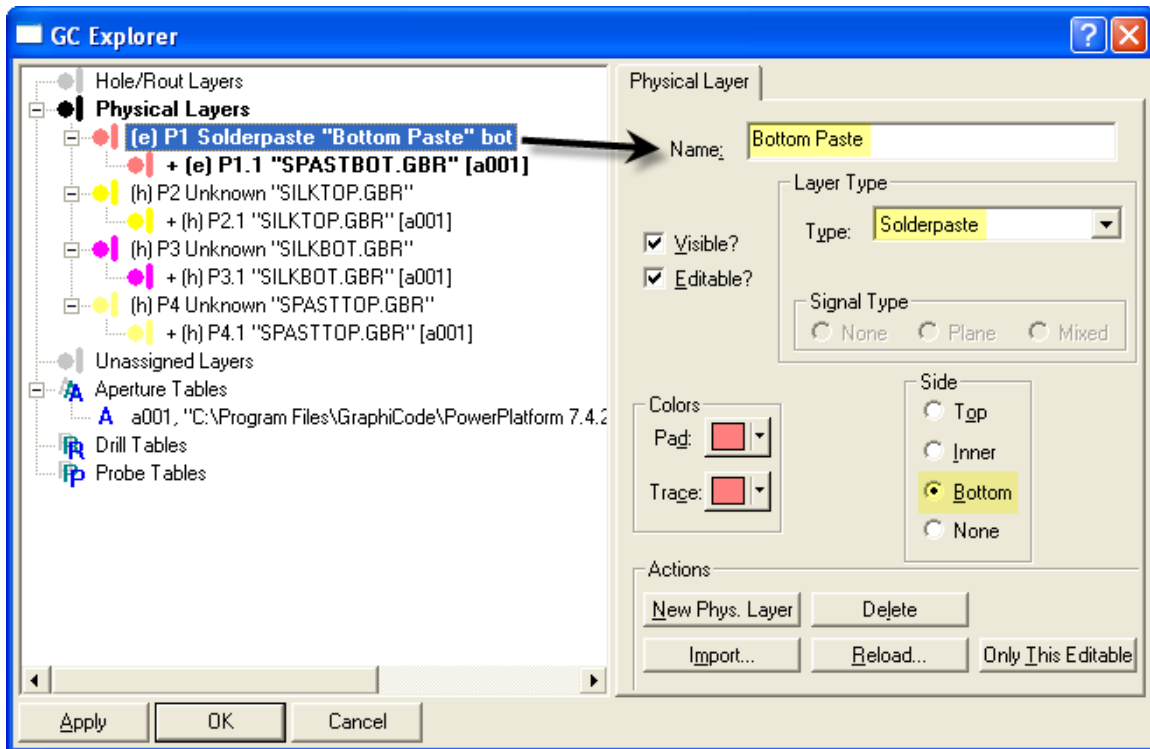

Figure 23
3. Remove extraneous data by using the “left-mouse, click-drag” technique to create a selection box around the data, then choose a selection method (prompted after making the selection box), or simply position the cursor + crosshair over the data and left-click to select/unselect data, then delete the data using Edit > Delete (hot keys “ctrl + delete”) – See Figure 23.